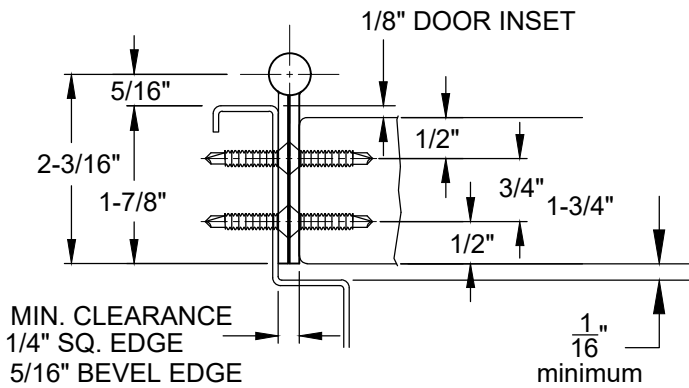

FIG. 1
1. Place hinge on the frame as shown in Fig. 2 allowing 1/8" between top of hinge and underside of header. Allow $\frac{1}{16}$ " minimum clearance between hinge and stop (see Fig. 1).